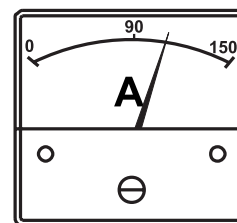

Figure 51. Ammeter (Load)
11. Observe the generator's ammeter (Figure 51) and verify it reads the anticipated amount of current with respect to the load. The ammeter will only display a current reading if a load is in use.